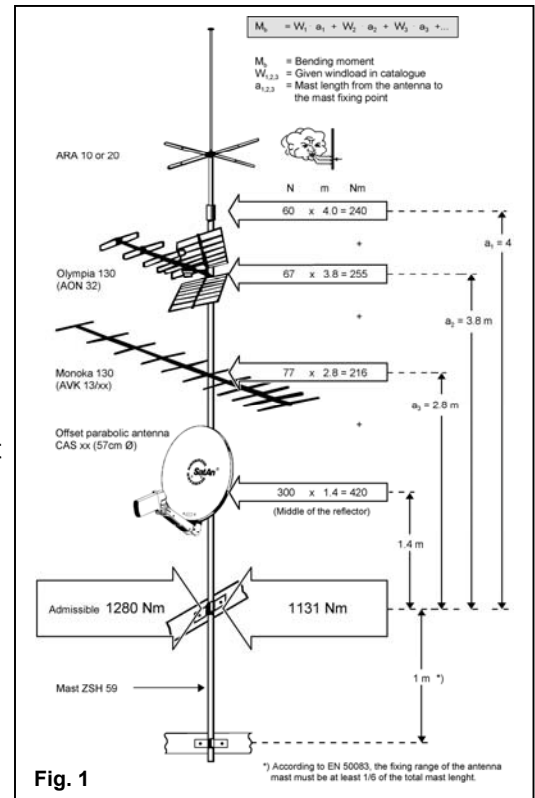

Fig. 1
■ Mast installation and mast calculation (Fig. 1)